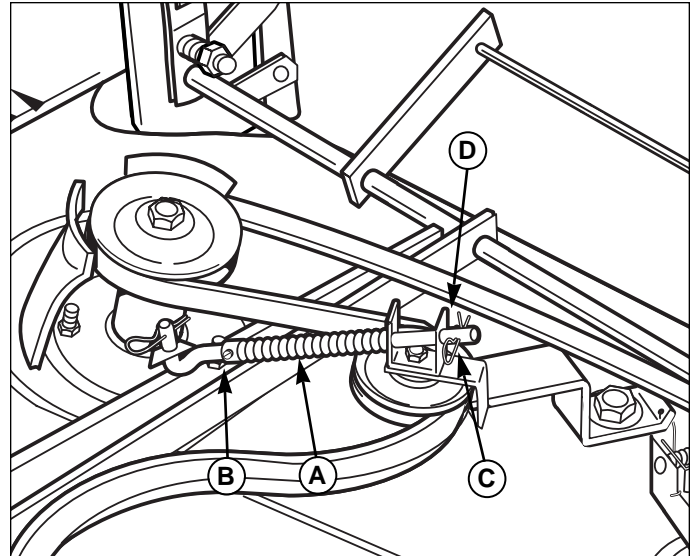

Figure 31. PTO Clutch Adjustment
1. Install the mower deck on the tractor (the mower shown in Figure 31 was removed for clarity).
4. Loosen the set collar (B).
5. Pull the clutch rod back until the cotter pin (C) contacts the U-shaped bracket (D). Slide the set collar (B) forward to remove all slack from the clutch rod and spring assembly. The collar should be touching the spring, but not compressing it.
6. Tighten the set collar (B).
8. Measure the length of the compressed clutch spring (A). The spring should be 2-7/8" to 3" (7.3 cm to 7.62 cm) when compressed. If the spring is not within this range, proceed to the next step.
9. Disengage the PTO. Loosen the set collar and move the cotter pin (C) to the middle or outermost hole in the clutch rod.